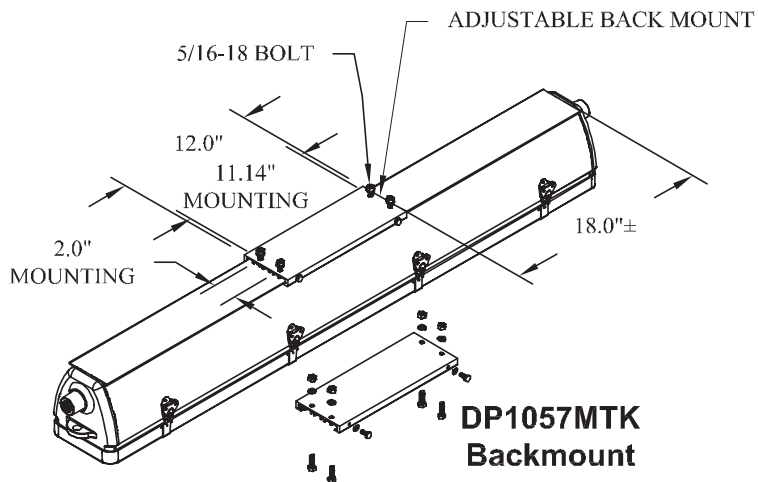

Figure 5. DP1057MTK Back Mount Installation
1. For back mount, use the bracket as a template, mark and drill holes into the mounting surface and use supplied 5/16" bolts (see Figure 5).
3. It is strongly suggested to use two (2) qualified tradespeople to proceed with the final mounting of the fixture. This is recommended to avoid any personal injury or damage to the fixture.
4. Place the four (4) 5/16" bolts through the mounting plate and tighten evenly to the support structure. Minimum torque 138 in.-lbs. (15.6 N-m).
7. Tighten the four (4) 1/4" set screws on the slide bracket until they bottom. Torque to 78 in.-lbs. (8.8 N-m).